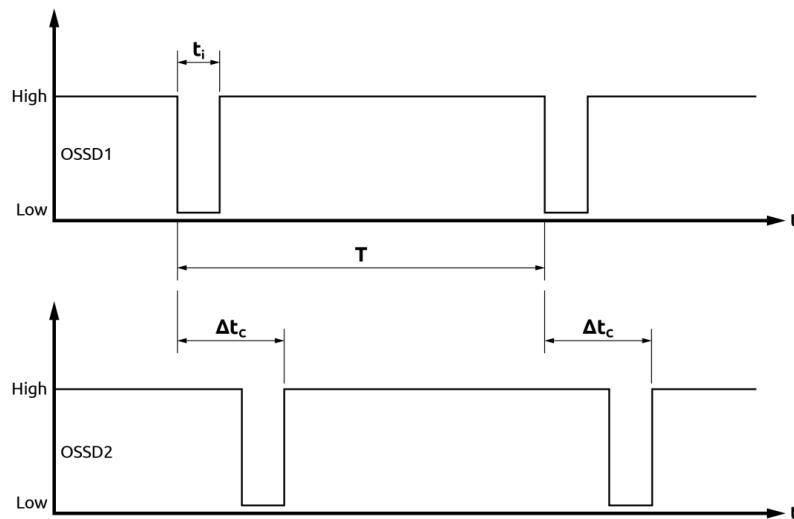

Figure 29 - Timing of OSSD test pulses
- For a quicker and safe connection, Lovato Electric recommends using its splitter connectors as showed in Figure 29 and Figure 30.